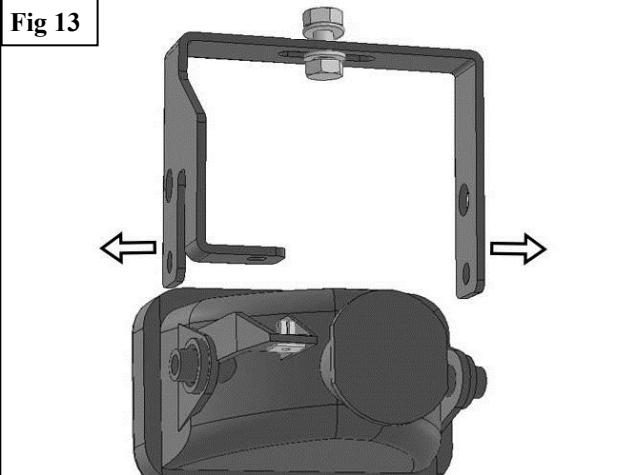
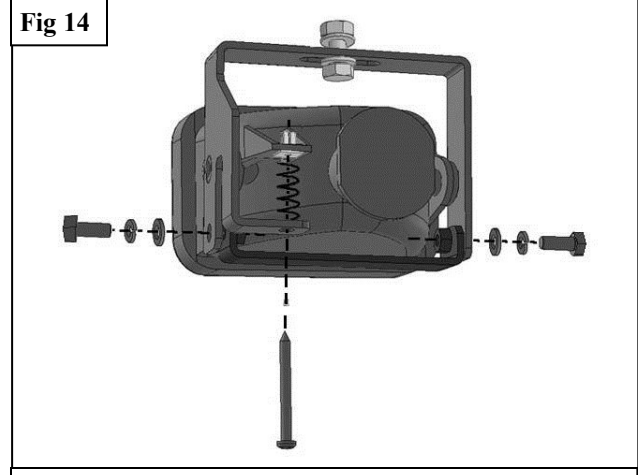

Fig 13
Fig 14
- Carefully spread the sides of the Bracket enough to slide the OE plastic fog light between and into the Bracket, (**Figure 13**). Attach (1) Lower U Bracket to the Upper Bracket with (2) 6mm x 16mm Hex Bolts, (2) 6mm Lock Washers and (2) 6mm Flat Washers, (**Figure 14**).
- Insert the factory spring between the tab on the Bracket and the light. Insert the screw through the tab, spring and into the fog light, (**Figure 14**).